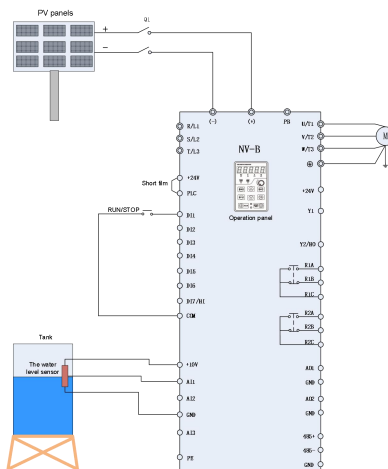

Figure 3-1 NV-B series
1. Please wirings as Figure3-1 according to different inverter powers, check and confirm the wirings to be correct, and then close Q1.